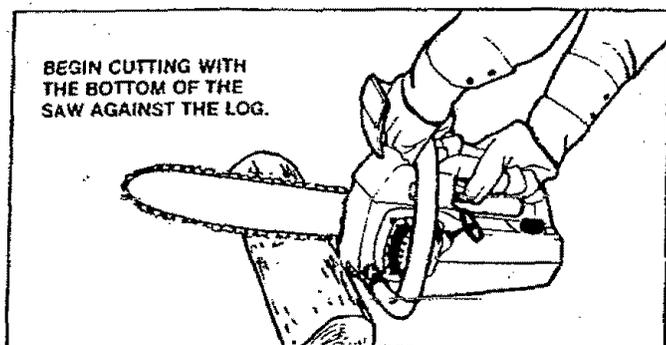

Figure 18
- b. Begin cutting with the saw frame against the log. Figure 18.